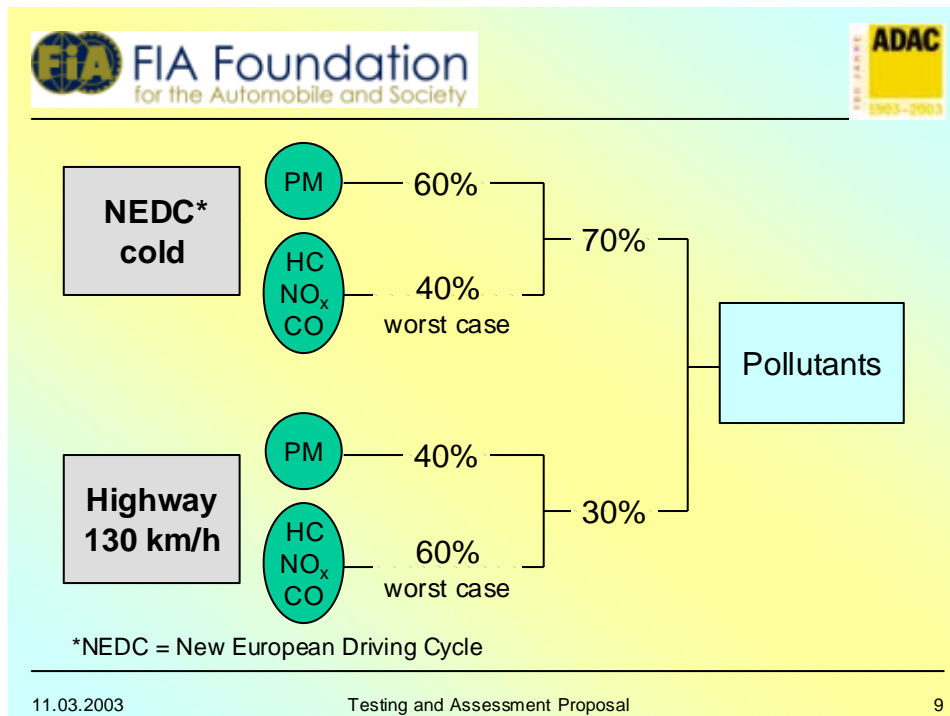

Figure 5: Scheme for the rating of pollutants
The rating of the pollutants is calculated by contributions of the ratings of NEDC cold and ADAC highway. Although conventional Petrol engines, except direct injection systems, do not have particle emissions detectable by gravimetric measurements, the same rating formula (2) for Petrol and Diesel vehicles is used. The consequence is that Petrol vehicles (except direct injection engines) have the maximum rating for particles which influences the emission-result positively. This scheme is shown in **Figure 5**.
Out of these results for CO, HC and NO_x the worst rating is taken into account for further calculations ("worst case"). In addition a rating for PM is calculated separately. The weight of PM and worst case rating are balanced as shown in Figure 5.